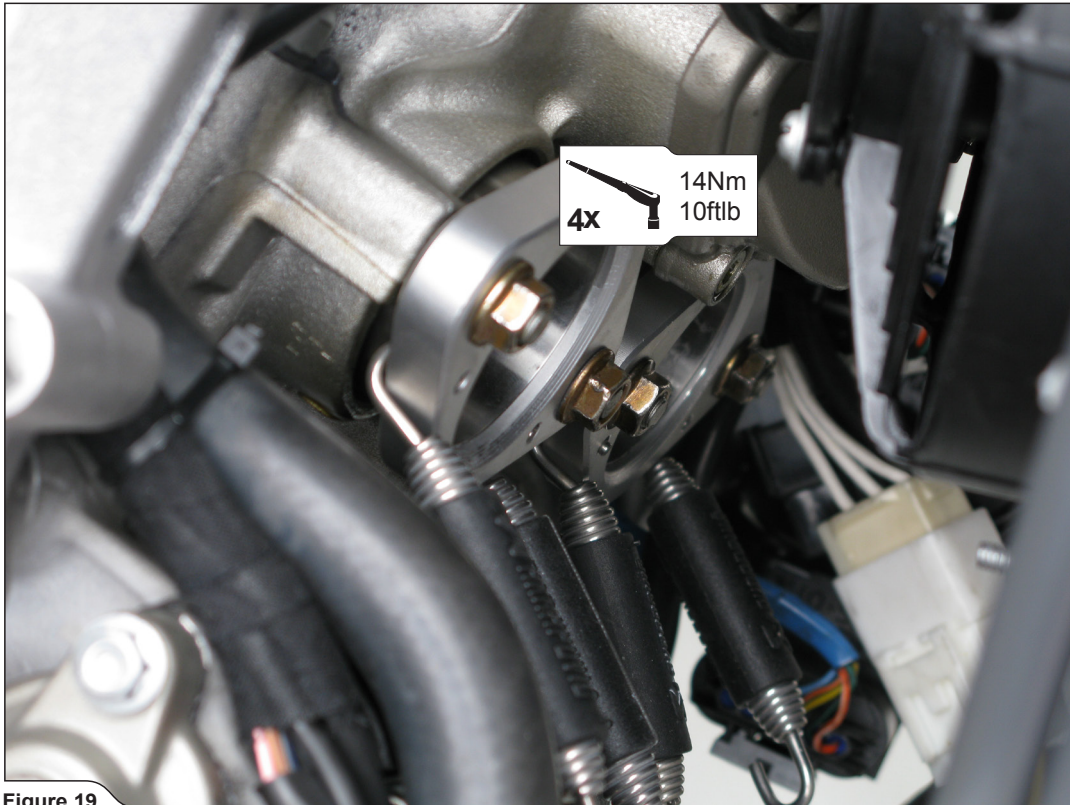

Figure 19
3. Set up and tighten the front headers' flanges together with the springs and sleeves onto the front cylinder head, using stock nuts; make sure you orient the flanges and springs as shown (**Figure 19**).